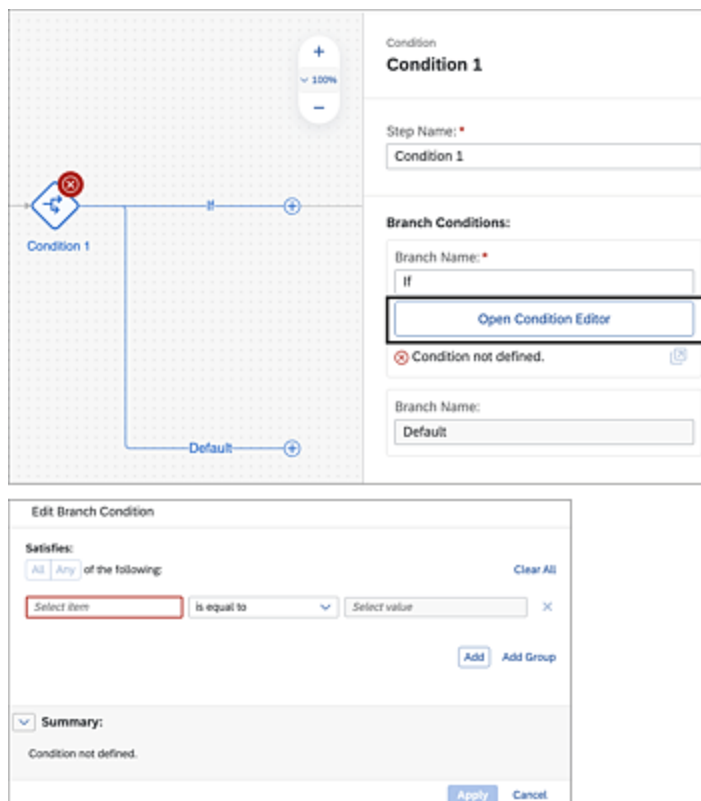

Figure 18.73 Condition Control
- Add a condition to the “If” branch using the **Open Condition Editor** button, as shown in Figure 18.73. This condition should be based on the value of a process input’s parameters you configured during the creation of the process. You can use comparison operators in this value to be evaluated to true or false.